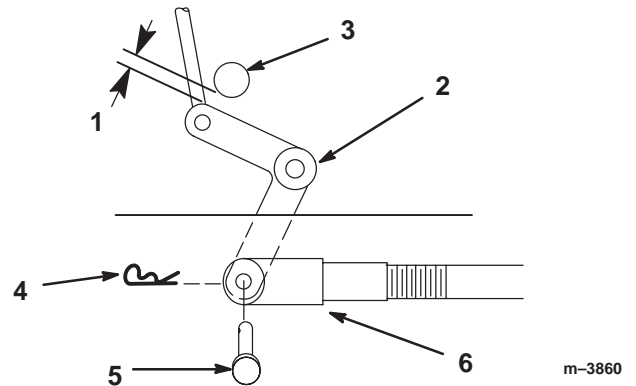
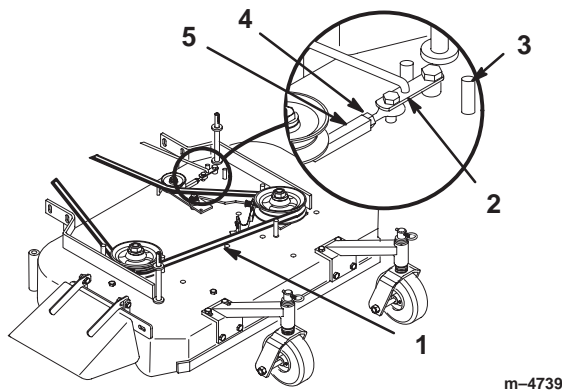

Figure 47
Figure 48
8. Engage PTO lever and check the clearance between the bellcrank and the transmission output shaft (Fig. 47). Space should be 1/16 – 1/8 in. (2–3 mm).
9. Remove hairpin cotter and clevis pin from bellcrank. Rotate clevis clockwise on rod to increase or counterclockwise to decrease clearance (Fig. 47).
10. Disengage the PTO. If the assist arm does not contact the front stop on the mower deck (Fig. 48), readjust the clevis to bring the bellcrank closer to the transmission output shaft (Fig. 47).
3. Loosen locknut on turnbuckle (Fig. 48).
4. Rotate turnbuckle toward rear of mower to increase tension on belt. Rotate turnbuckle toward front of mower to decrease tension on belt (Fig. 48).